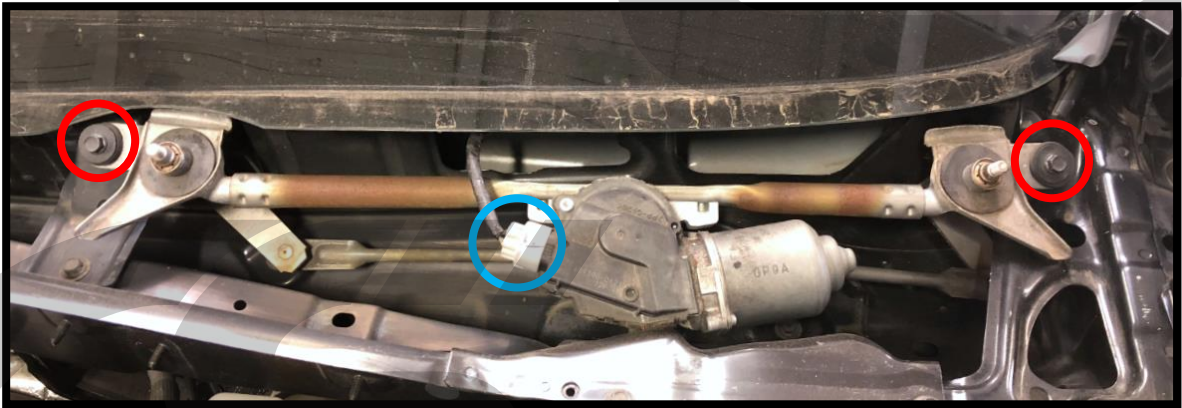

Figure 1e
- k) Remove the two 10mm bolts that connect the wiper motor assembly to the metal portion of the cowl. Bolt locations **circled in red** in **Figure 1e**.
- l) Unplug the wiper motor assembly. The plug is **circled in blue** in **Figure 1e**.